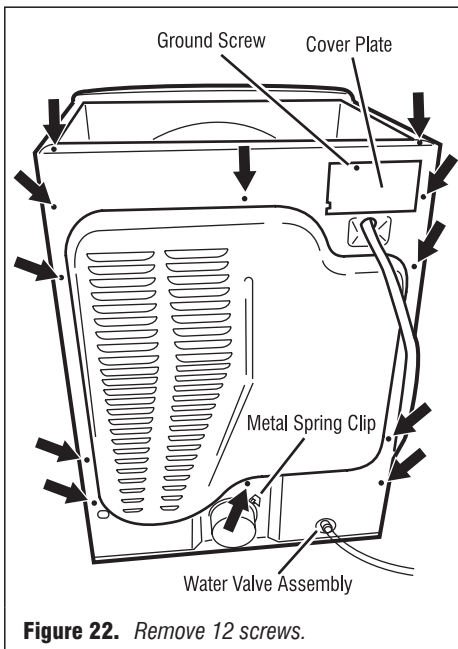

Figure 22. Remove 12 screws.
4. Remove the metal spring clip between the back panel and the exhaust outlet. See figure 22.
5. Remove the ten screws on the rear, and two screws on the top of the back panel. Pull the back panel off the machine. See figure 22.